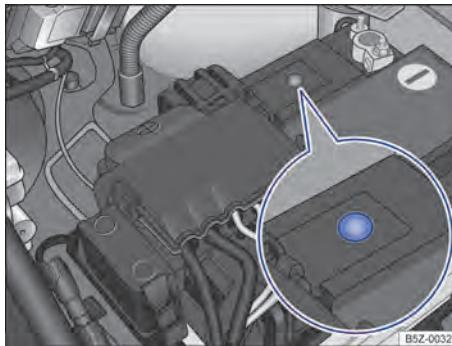

Fig. 193 On the engine compartment: example of display position on the upper side of the vehicle battery.
- The round display → **Fig. 193** on the top side of the vehicle battery changes its colour according to the electrolyte level.